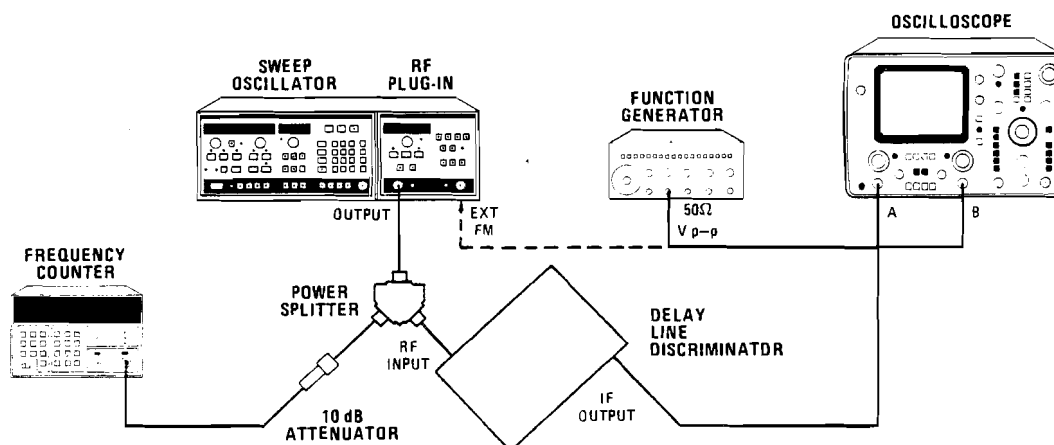

Figure 4-16. $>100\text{Hz}$ Frequency Modulation Test Setup
6. Set function generator output amplitude to 0.1 volt p-p output. Connect equipment as shown in Figure 4-16 with function generator output not connected. Adjust CW and CW VERNIER for a delay line discriminator output of '0' volts as observed on oscilloscope. Note frequency counter reading on test card step 6.